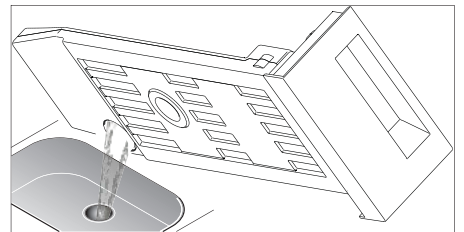

Fig13
2. Tilt the water container, pour out the condensed water (Fig13).